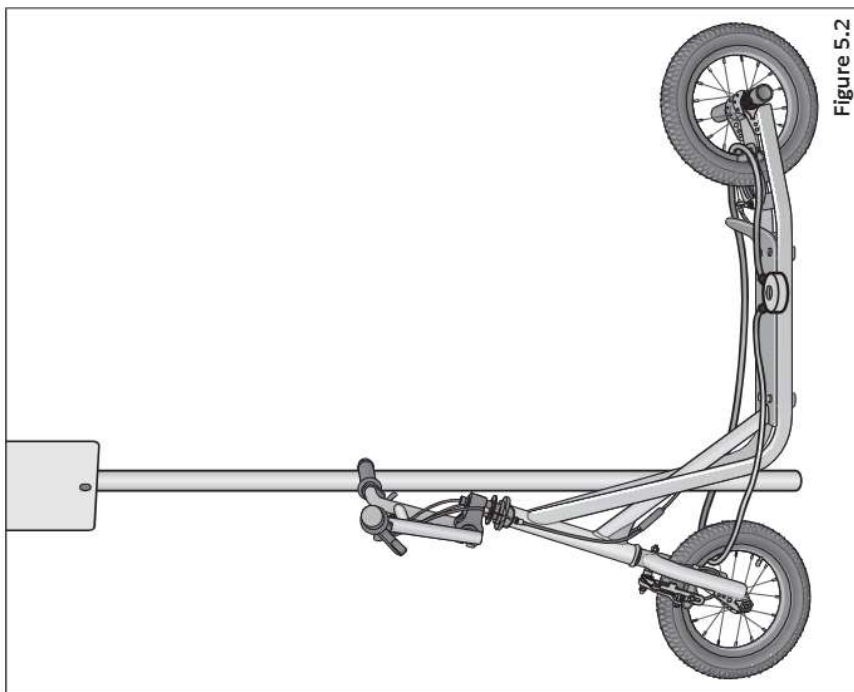

Figure 5.2
- Always lock your scooter to an immovable object if it is left unattended. **Figure 5.2**